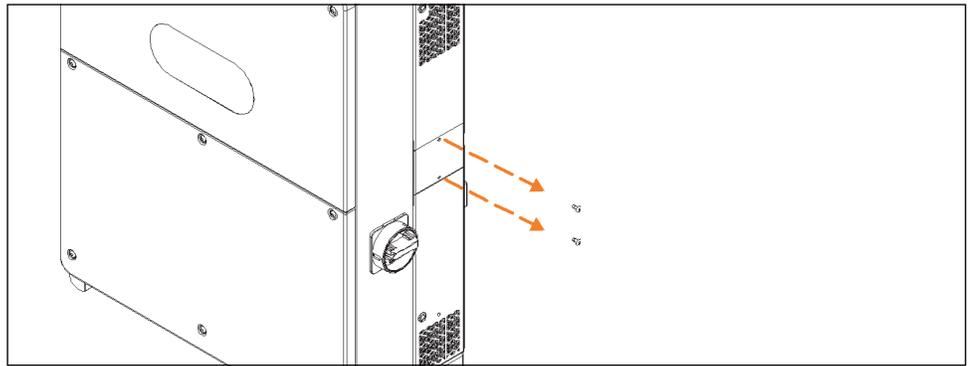

Figure 6-1 Remove Screws from Side Panel
2. Remove the screws holding the fan assembly to the enclosure as shown in Figure 6-1.